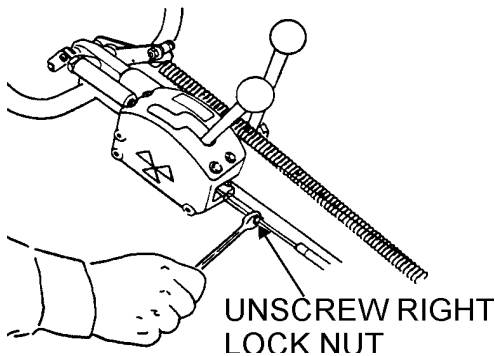

Figure 38. Unscrewing Right Lock Nut
2. Unscrew the two lock nuts on the sides of the cable (Figures 38 and 39).